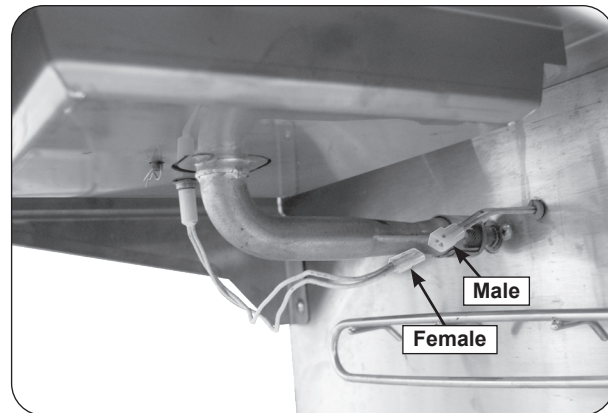

Fig. 24-2 Igniter wire connection
4. Connect the female connector on the end of the hot surface igniter wire to the male connector coming from inside the grill. See Fig. 24-2.